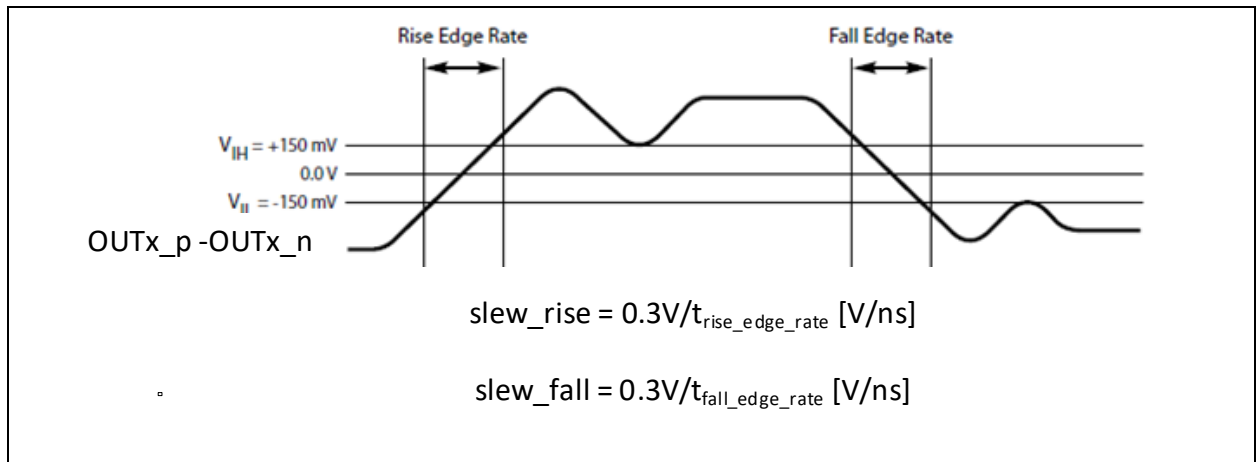

Figure 21. Differential Measurement Points for Rise and Fall Time
(0) Output differential swing is calculated as V_{SW} = V_{OH} - V_{OL}. It should not be confused with V_{SW} = 2 * (V_{OH} - V_{OL}) used in some datasheets
(1) Measurement taken from single ended waveform
(2) Measurement taken from differential waveform.
(3) Measured from -150 mV to +150 mV on the differential waveform (derived from CK minus CK#) The signal must be monotonic through the measurement region for rise and fall time. The 300 mV measurement window is centered on the differential zero crossing. See Figure 21